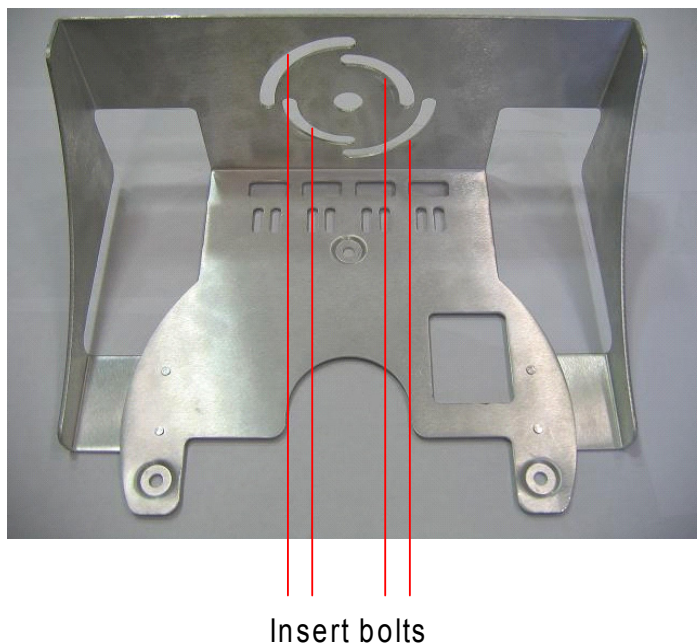

Figure 3.8. **Tray Mount for Wood Brace**
2. Attach the tray directly to the wood brace using four 5/8 inch diameter, 3 inch long lag bolts as shown in Figure 3.8. Use an appropriate Allen wrench to tighten the bolts. Make sure that the wood brace is level.